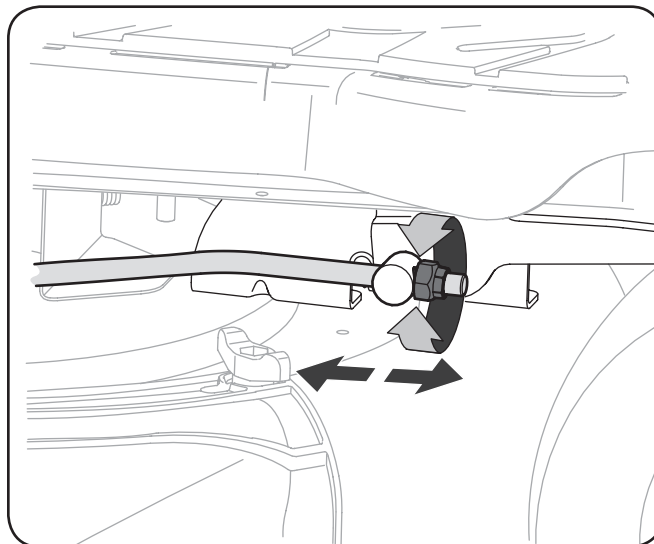

Figure 6-3
3. Locate the flange lock nut on the front end of the PTO Lift Rod. See Figure 6-3.